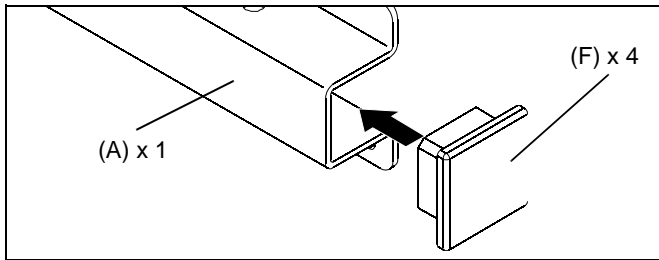

Figure 2
1. Slide one end cap (F) into each end of upper and lower wall plates ON MOUNT (A). (See Figure 2)